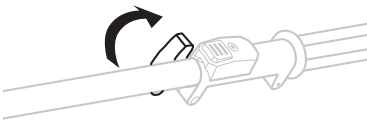

Fig. 4A
2. Loosen the wing knob to release the shaft (Fig. 4A).